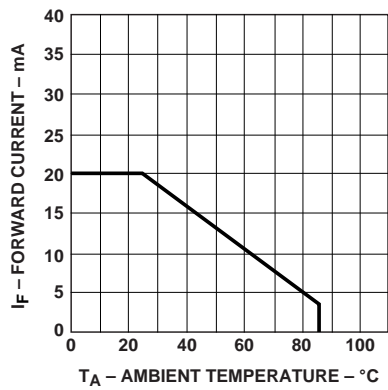

Figure 4. Maximum DC Current vs. Ambient Temperature.
1. Derate linearly as shown in Figure 4 for temperatures above 25°C .